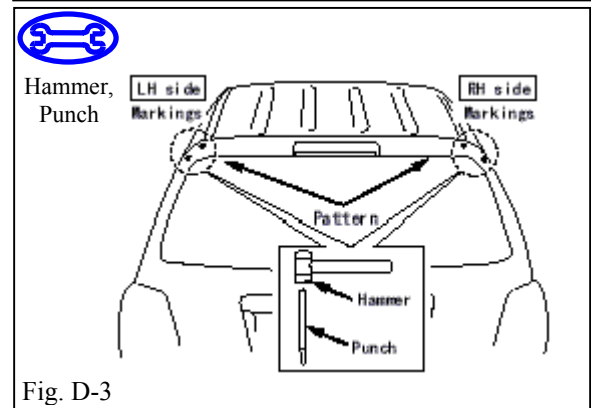

Fig. D-3
-  4. Using a punch, provide markings in the centers of the drilling positions of the template and remove the template. (2 positions on RH side and 2 positions on LH side) (Fig. D-3)